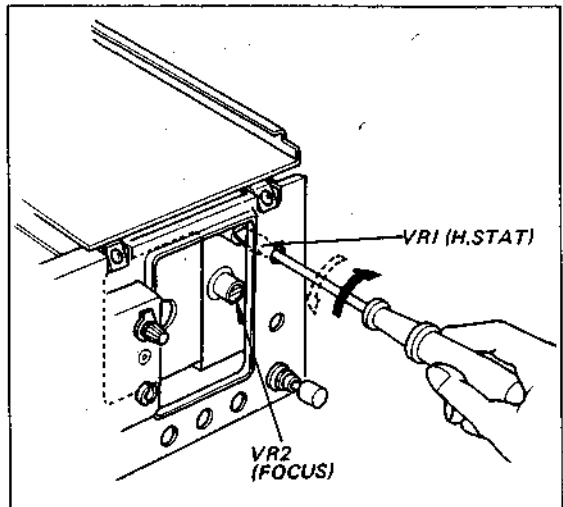
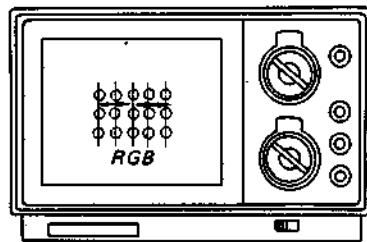

Fig. 3-9. H. STAT VR adjustment
Fig. 3-10. Dots movement
- (1) Adjust VRI (H. STAT) to converge the dots horizontally at center of the screen as shown in Fig. 3-9 and Fig. 3-10. If this does not correct the convergence, proceed to Step (2).